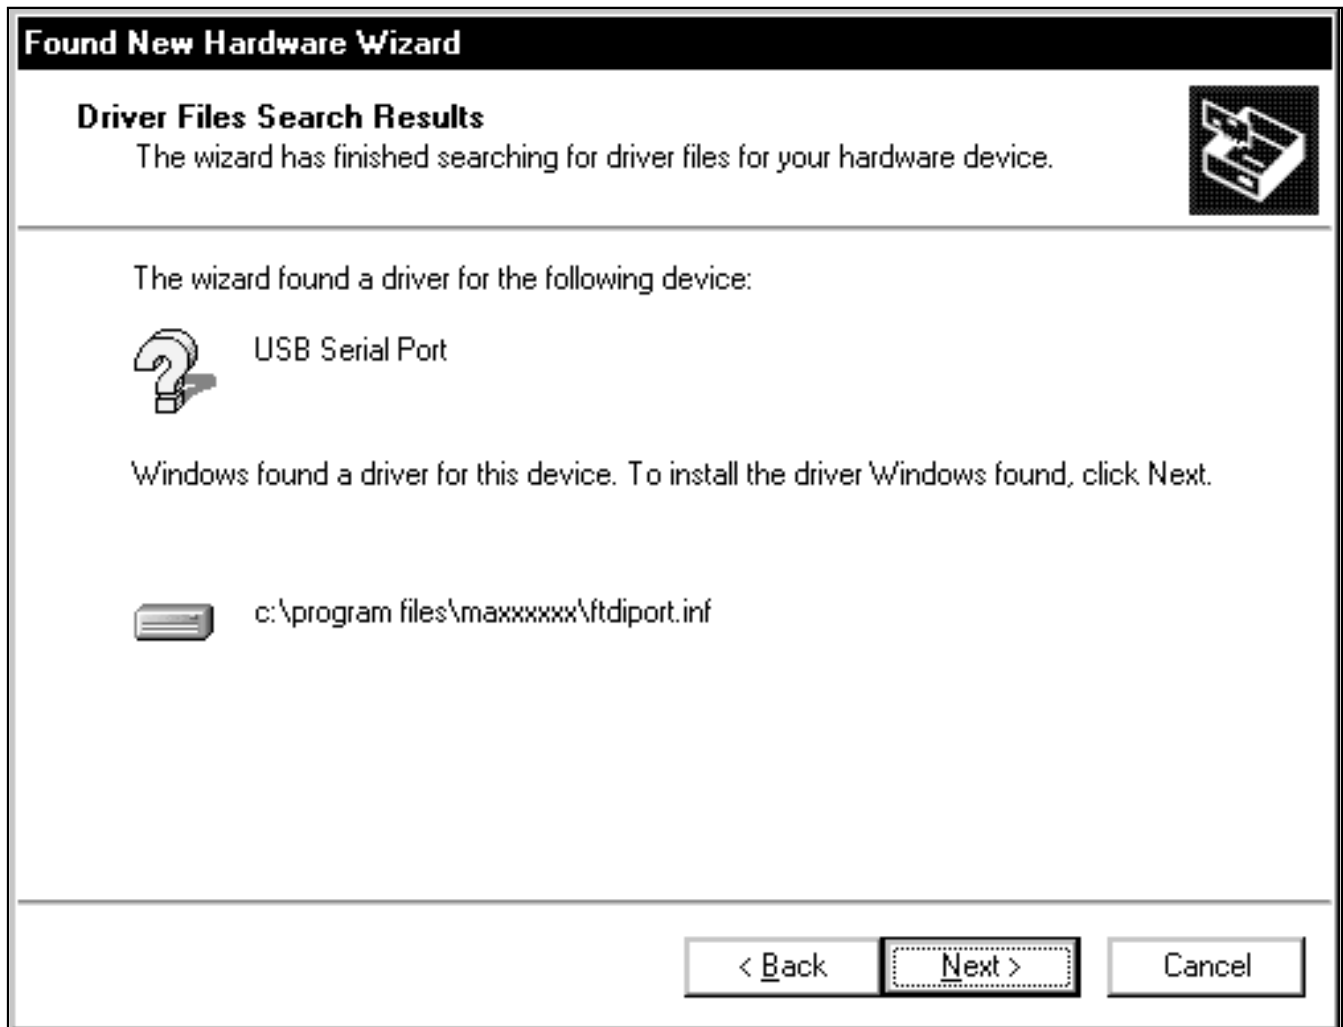

Figure 21. Windows 2000: **Found New Hardware Wizard | Driver Files Search Results** Window
- 13) The **Found New Hardware Wizard | Driver Files Search Results** window ( Figure 21) appears. Press the **Next** button after the wizard finds the driver.